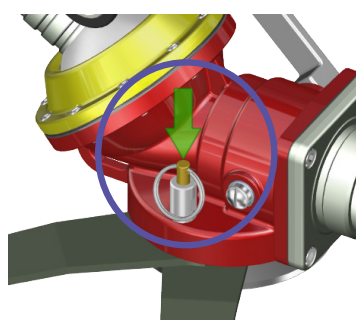

Fig. 2
- **2** - Check that the stabilizing leg locking pin is locked (Fig. 2).